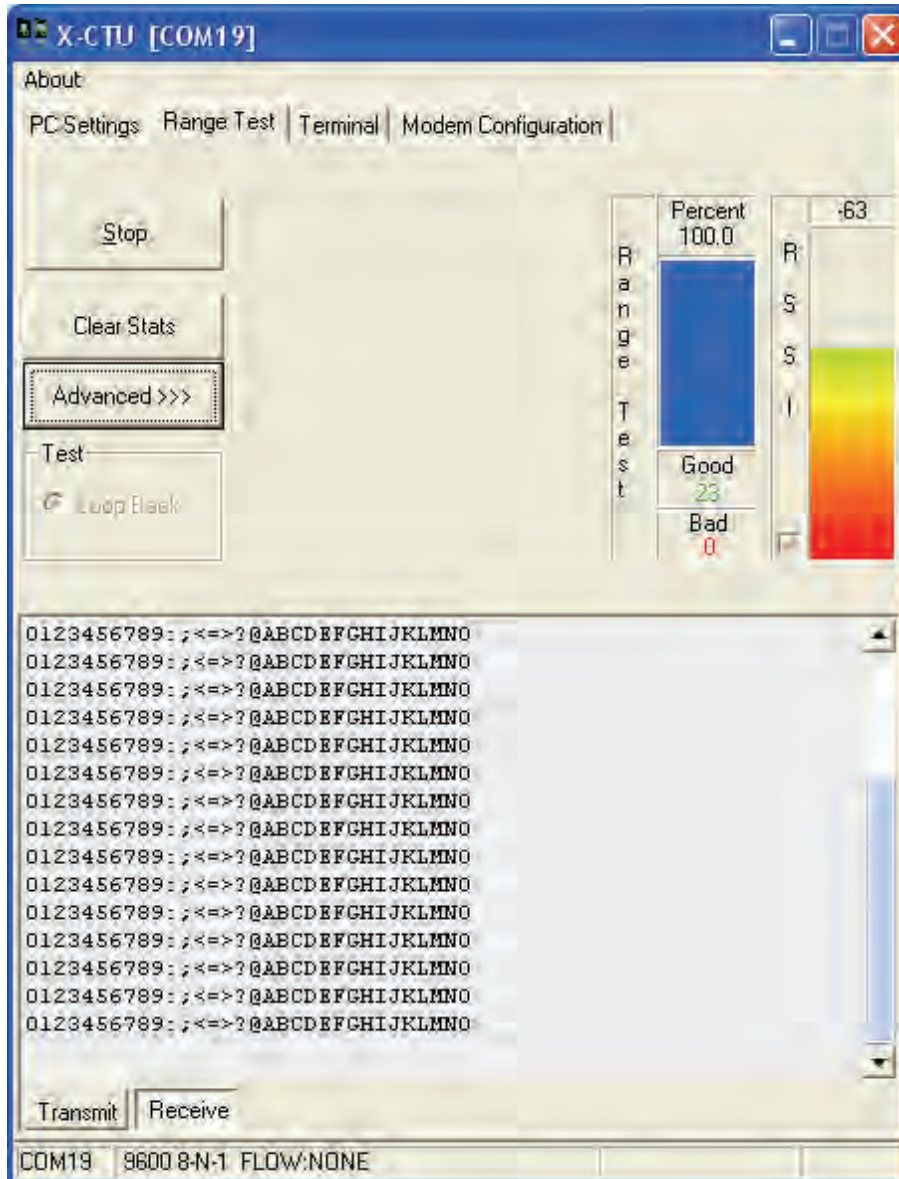

Figure 3-7: Range Testing and RSSI Monitoring
- ✓ Click Start. The software will repeatedly send packets and display the signal strength and percentage of correctly returned packets as well as the packet itself as shown in Figure 3-7. Click Stop once you've seen enough.